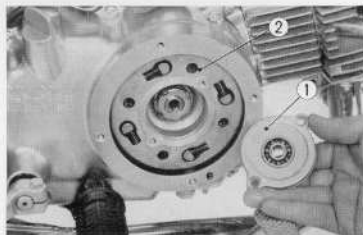

Fig. 3.65 Removing the clutch outer cover
3. Remove the clutch outer cover. (Fig. 3.65)